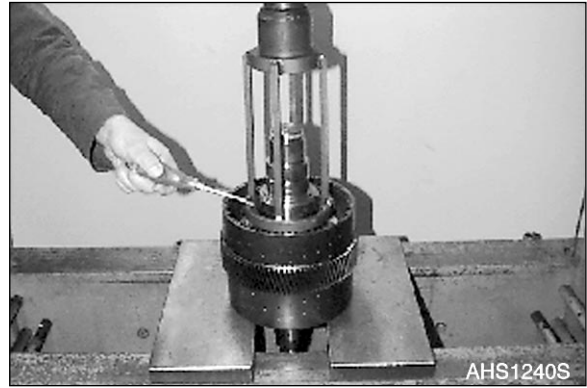
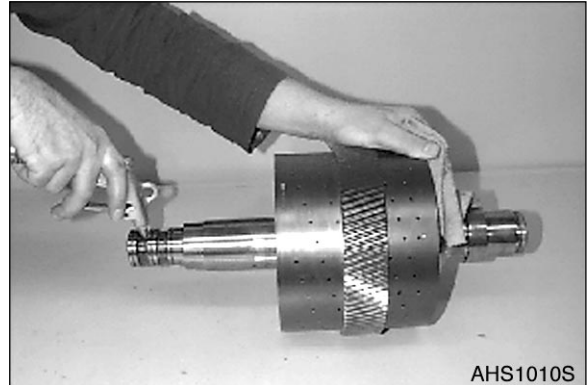

Figure 141
Figure 142
19. Disassemble both pistons, as described at Figure 141 and Figure 142.
20. Disassemble both pistons (as described at Figure 141 and Figure 142).